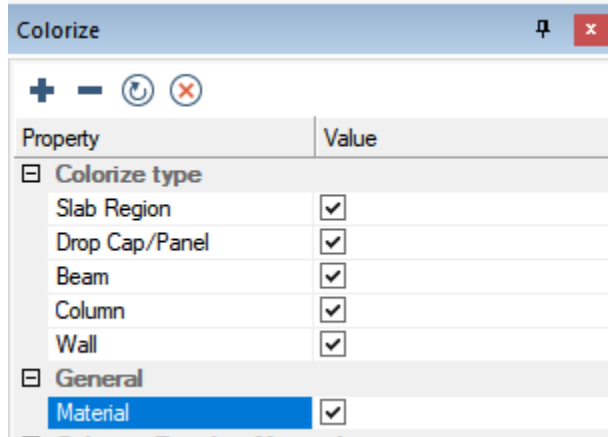

FIGURE 7-2
- In the *Colorize Grid* make the selections as shown in **FIGURE 7-2**.